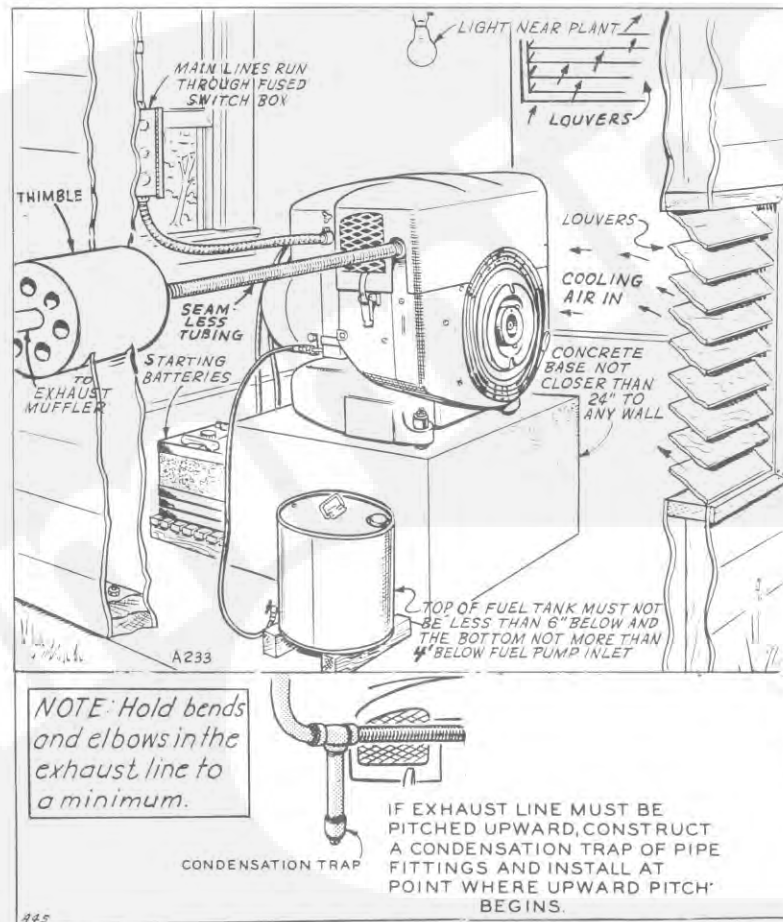

FIG. 2B- TYPICAL INDOOR INSTALATION
**EXHAUST LINES.** - All exhaust gases must be piped outdoors. Use pipe as large as the exhaust outlet at the plant but increase the pipe size by one size for each 10 feet used. A short length of flexible tubing must be installed between the plant and any rigidly mounted exhaust pipe or connection. Keep the exhaust pipe at least 9" from combustible materials, and protect walls and partitions through which exhaust pipes pass with a thimble having a diameter 12" greater than the exhaust pipe and extending 9" beyond the inside and outside of the walls and partitions; see Figure 2B.